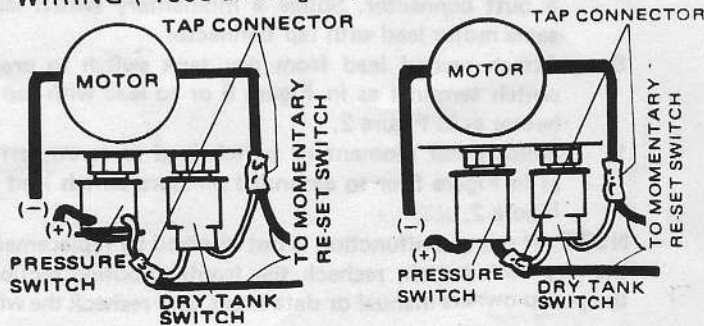
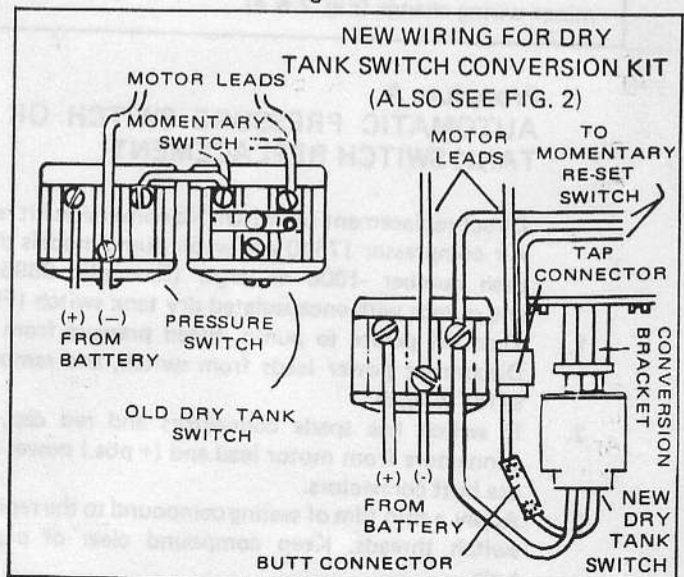

Figure 2.
Figure 5.
Automatic pressure switch 44814-0000 directly replaces switch on all PAR water systems built to comply with the 1978 USCG electrical requirements. It may also replace a 37121-0010 with minor wiring change (Fig. 2 & 4).
Direct replacement of switch. No conversion kit required: Air compressor 17510 and water pump models that have dash number -1000 or larger (Example: 36950-1000) and pumps with encapsulated dry tank switch (Figure 2).
5. Reconnect switch leads using butt connectors for pressure switch and tap connectors for dry tank switch. (Figure 2).
When a conversion kit is required as in Figure 5, follow instructions 1 through 5 above and then continue with 6 below.
8. Attach second lead from dry tank switch to pressure switch terminal as in Figure 5 or to lead with tap connector as in Figure 2.
9. Splice other momentary switch lead to screw terminal as in Figure 5 or to extended pressure switch lead as in Figure 2.